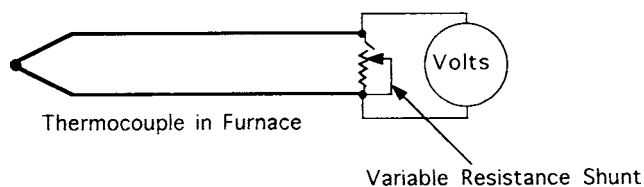

FIG. 1 An Alternative Method to Measure Loop Resistance
8.1.3 An alternative method to determine the loop resistance of a thermocouple at elevated temperatures is to shunt the thermocouple at the connector prongs with a variable resistor. Measure the open-switch thermocouple Seebeck voltage between the connector prongs with a high impedance voltmeter capable of measuring in the microvolt range (see Fig. 1). The measuring junction must be at constant temperature and the connector prongs must remain at the same terminal temperature during this test. Close the switch and adjust the resistance of the variable resistor until the closed-switch measured voltage is $\frac{1}{2}$ that of the open-switch Seebeck voltage (at which time the variable resistor has the same resistance as the thermocouple loop). The variable resistor is then removed from